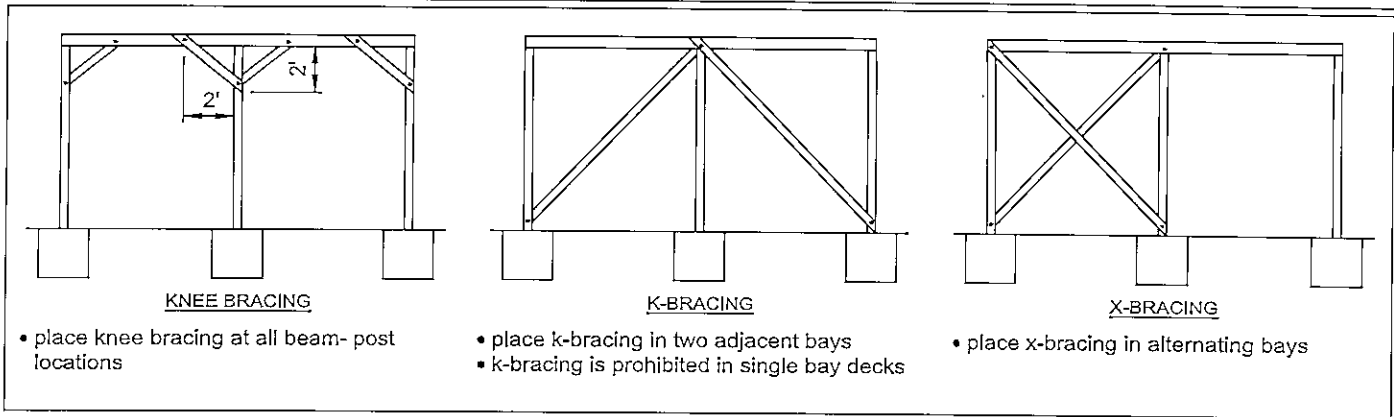
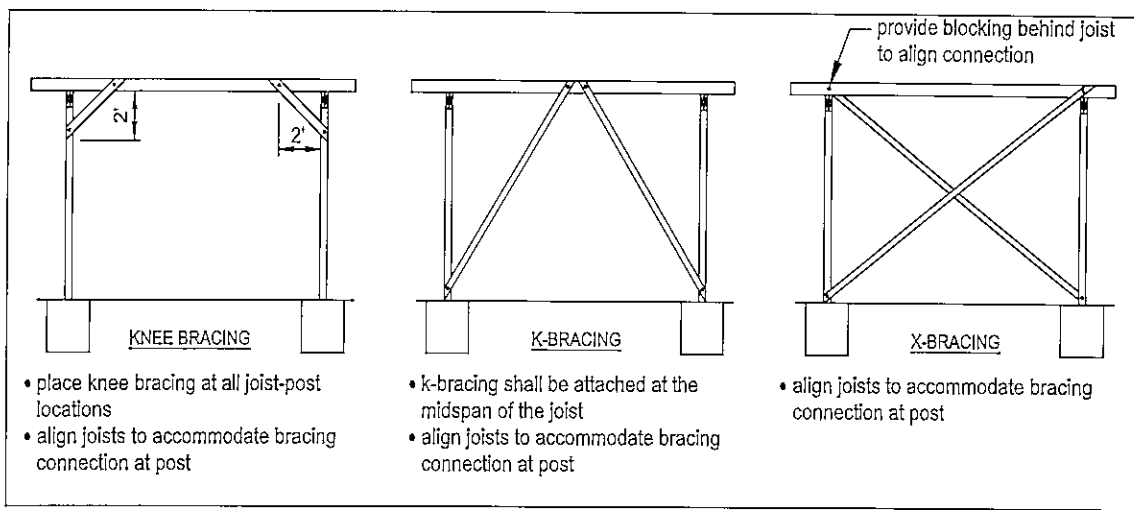

FIGURE 22: DIAGONAL BRACING AT BEAM-POST LOCATIONS (all decks)
FIGURE 23: DIAGONAL BRACING AT JOISTS-POST LOCATIONS (free-standing decks only)
All decks greater than 4'-0" above grade shall resist lateral loading by providing diagonal bracing as shown in FIGURE 22 and in accordance with the following:
- Free-standing decks shall also have diagonal bracing installed parallel to joists at each post location in accordance with FIGURE 23.
- Only one type of diagonal bracing shall be provided in each beam line as identified in FIGURE 22 and each joist line as identified in FIGURE 23.